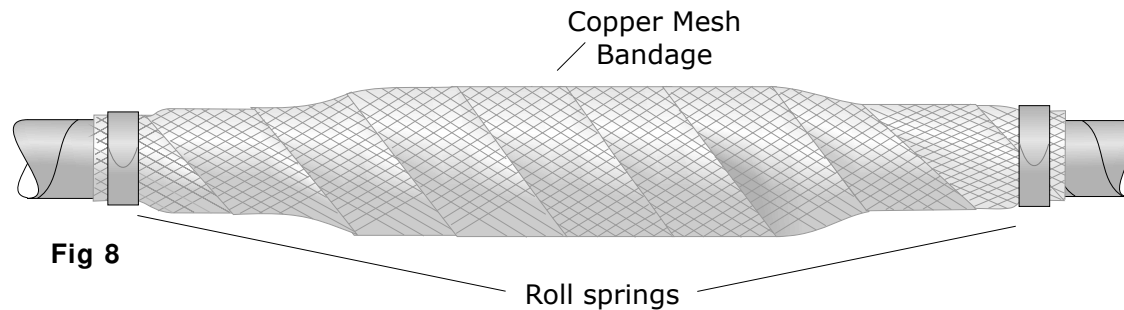

Fig 8
11. Apply two layers of the tinned copper mesh bandage with 50% overlap around the core extending onto the copper tape screens on both sides. Secure with the roll springs supplied as shown in Fig 8.